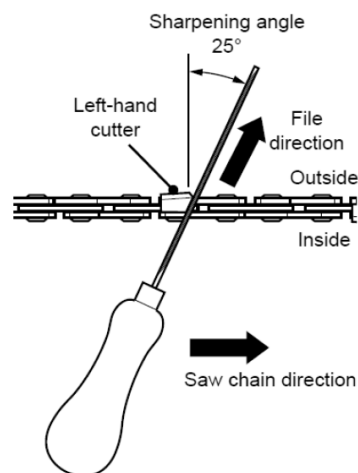

Figure 20
5. Sharpen each tooth equally by using the same number of strokes. See Figure 20, right.